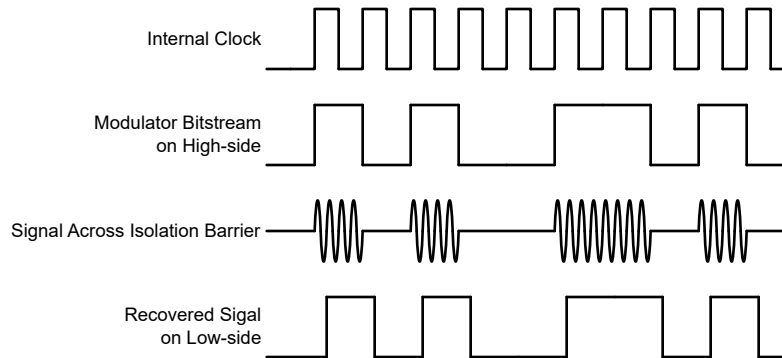

Figure 7-1. OOK-Based Modulation Scheme
As shown in Figure 7-1, the AMC0x30R uses an on-off keying (OOK) modulation scheme to transmit the modulator output bitstream across the SiO₂-based isolation barrier. The transmit driver (TX) is illustrated in the Functional Block Diagram. TX transmits an internally generated, high-frequency carrier across the isolation barrier to represent a digital one. However, TX does not send a signal to represent a digital zero. The nominal frequency of the carrier used inside the AMC0x30R is 480MHz.